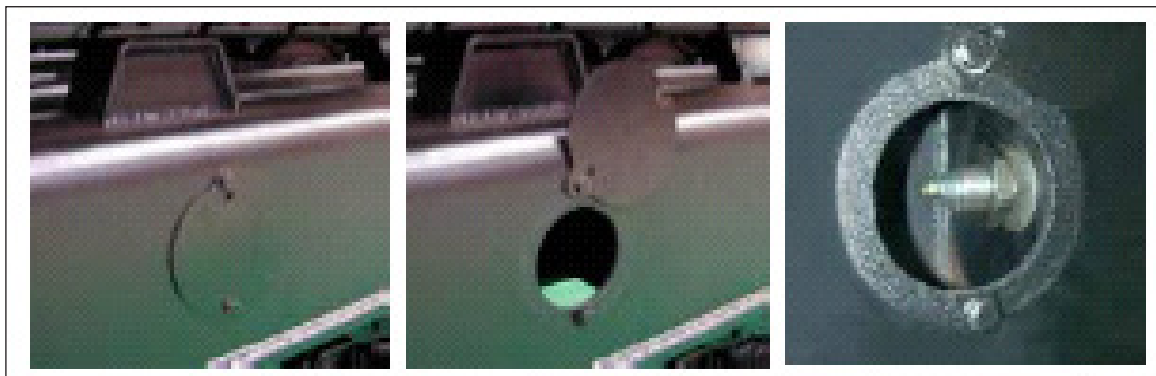

Figure 6.5 - Track Tensioner
5. Loosen the relief valve by turning counter clockwise using gradual increments until the grease begins to be expelled. Care must be taken not to loosen the relief valve too quickly because the grease inside is under high pressure Ref: Figure 6.5.